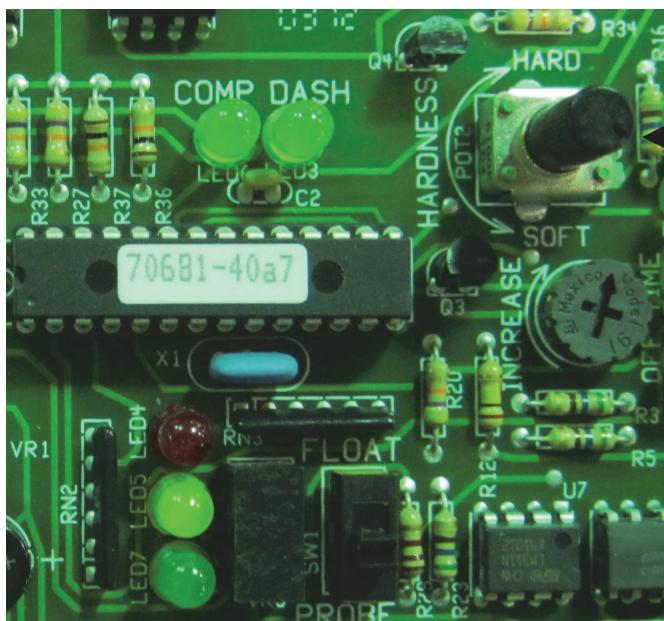

Fig. 32
3. Locate the three LED’s - green, yellow, and red—(Fig. 32). These are used as a reference point to adjust for proper consistency. Initially, all of the LED’s are off. This indicates that the mix is too thin. The compressor will now come on. As the product thickens, the green, then the yellow, then the red LED illuminate.
4. Turn the hardness potentiometer (Fig. 32) clockwise to make the product harder or counterclockwise to make the product softer. **Note: The potentiometer is very sensitive. Adjust in small increments**